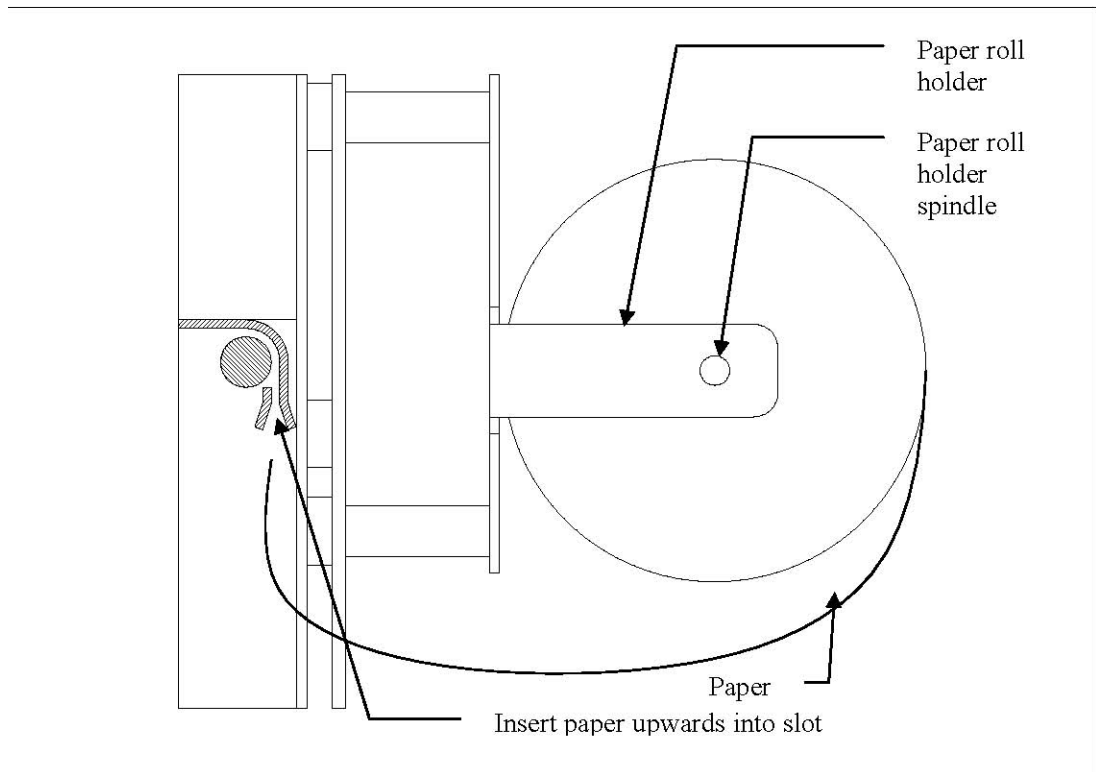

Figure 1 – Side view of printer mechanism
- 5 Insert the end of the paper roll into the slot at the bottom of the mechanism. This is shown in Figure 1.